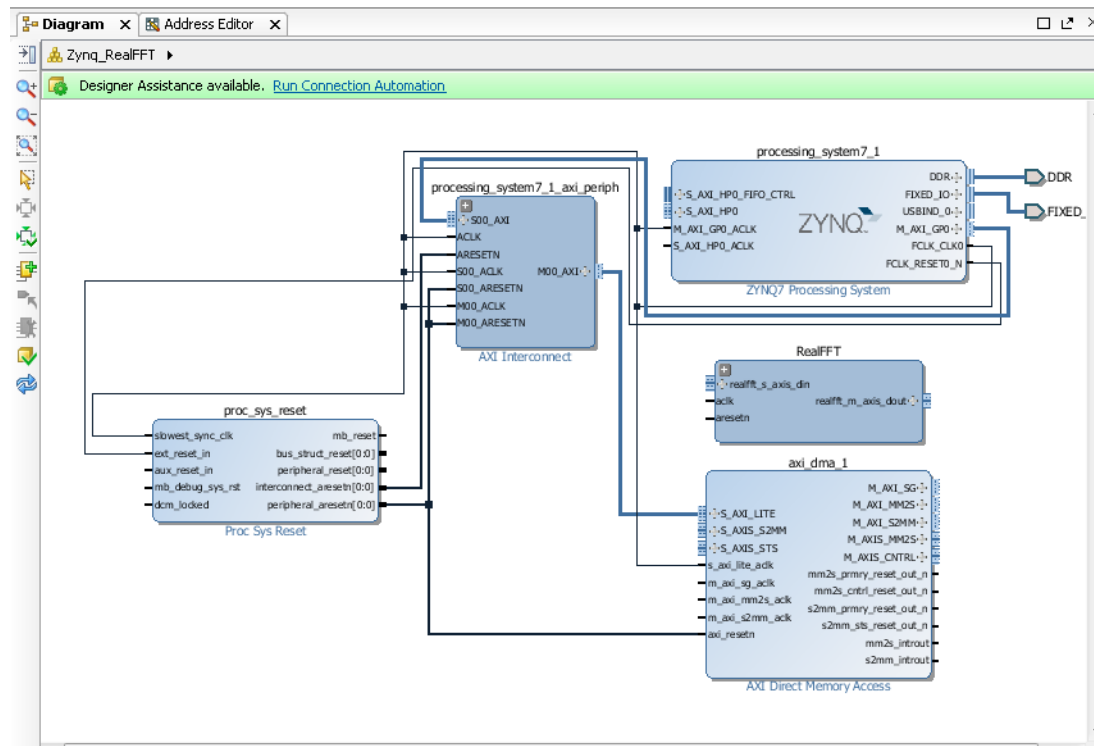

Figure 10-42: Zynq Diagram with Internal Connections
25. To complete the design, run Validate Design. When validation completes successfully, the block diagram should look like Figure 10-42.